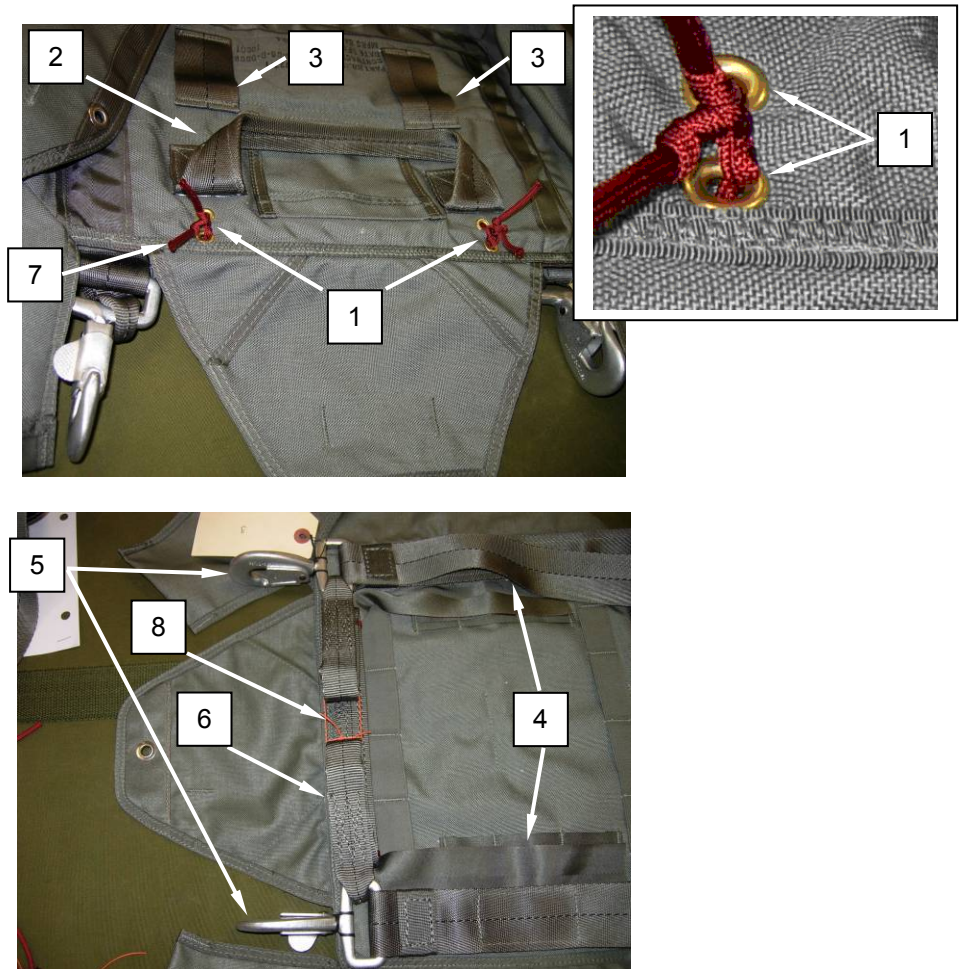

Figure 5. Reserve Pack Tray.
- f. **T-11 Reserve Pack Tray.** Pack tray contains four size 00 grommets (Figure 5, Item 1) located between the carrying handle (Figure 5, Item 2) and upper edge binding tape. Carrying handle has been moved down ½ inch to accommodate the installation of the grommets. Waistband retainers (Figure 5, Item 3) constructed of Type VIII nylon webbing have been repositioned so they are centered, 5 inches apart and 1½-inch below the carrying handle.
T-11 Reserve Riser Assembly (Figure 5, Item 4) is attached to the reserve pack tray, and reserve riser assembly has been properly attached to the reserve pack tray in the following two ways:
- (1) Snaps hooks (Figure 5, Item 5) have been secured to the reserve pack tray using one turn single lacing and tying tape.
- (2) Spreader bar (Figure 5, Item 6) has been secured to the reserve pack tray with Type III nylon cord (RED) (Figure 5, Item 7). The excess folds of the spreader bar are secured using ticket 8/14 (Orange) (Figure 5, Item 8).